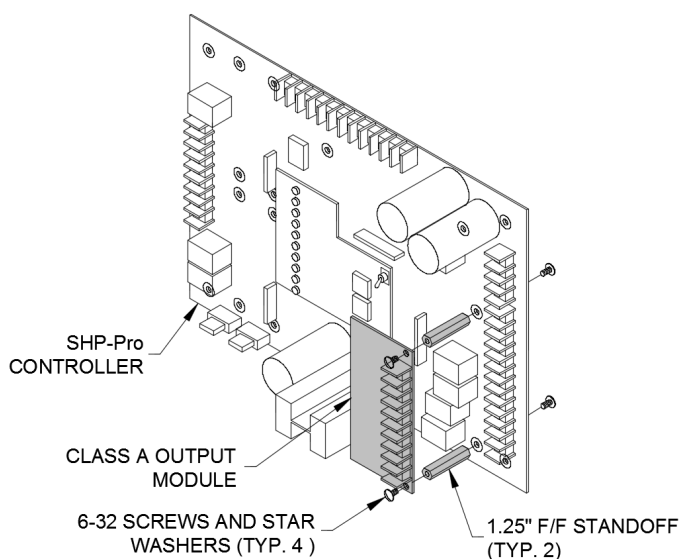

Figure 29 Class-A Output Module Mounting
Step 1 - Secure the two F/F hex standoffs onto the main control board with the screws provided, as shown in Figure 29.